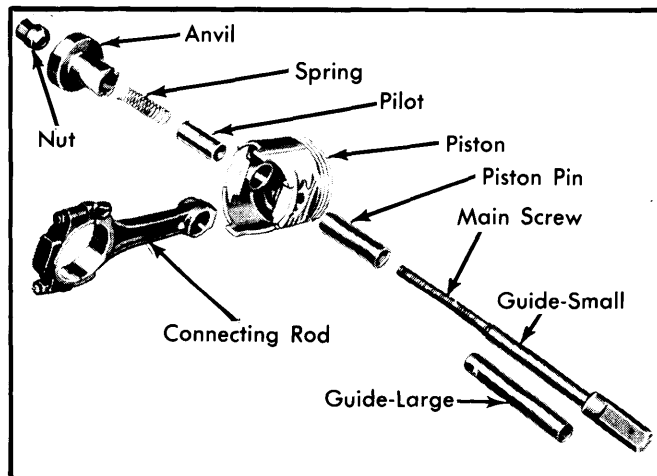

Fig. 9 Piston Pin Installation
2) Install Pilot on main screw (Fig. 9) and fit screw through piston pin. Install anvil, spring removed, over threaded end of main screw. Make sure small end of anvil is against piston boss.